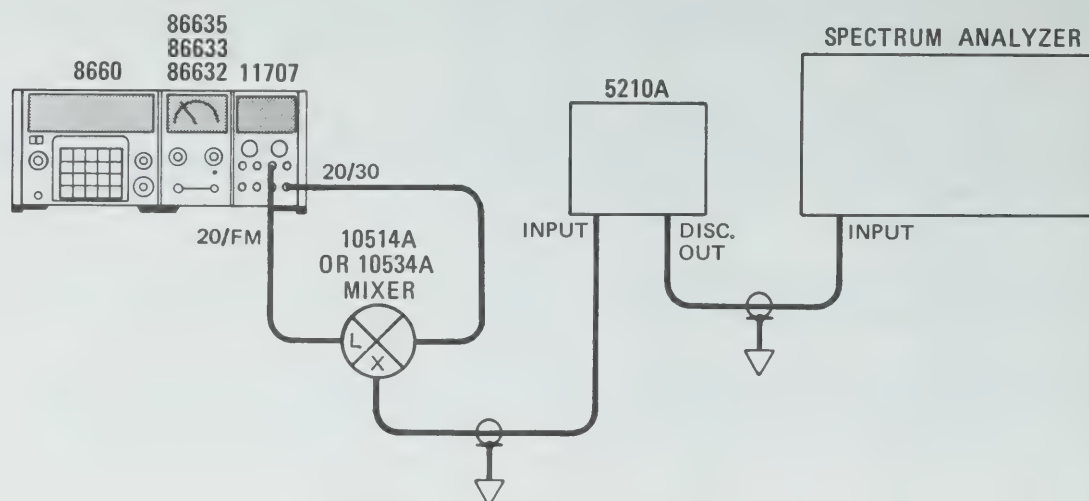

Figure G-2. FM Measurements
- G-11. If the FM Accuracy is correct, check the FM Distortion from the modulating section by using the test setup shown in Figure G-2.